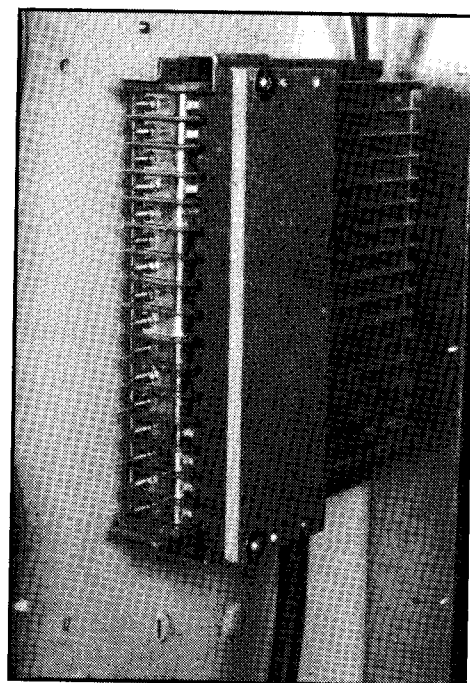

Figure 8. Connecting Split Plug Jumper to Switchgear.
3. Install the switchgear end of the plug jumper shown in **Figure 8** to the secondary disconnect block inside the switchgear cubicle. The plug jumper slides into place. The plug jumper interconnects all control power and signal leads (e.g., remote trip and close contacts) between the switchgear and the circuit breaker.